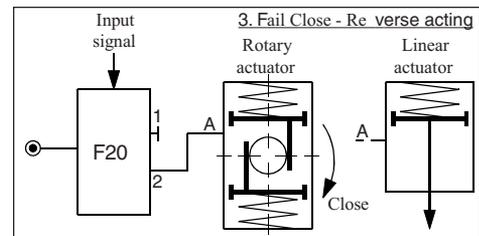
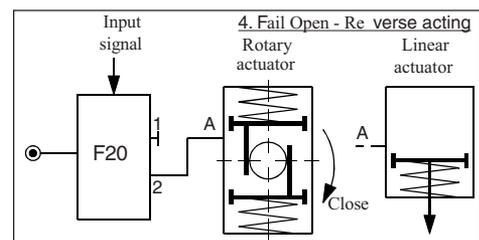

FIG. 13
FIG. 14
1. Change the tubing (see FIG. 13 & FIG. 14)